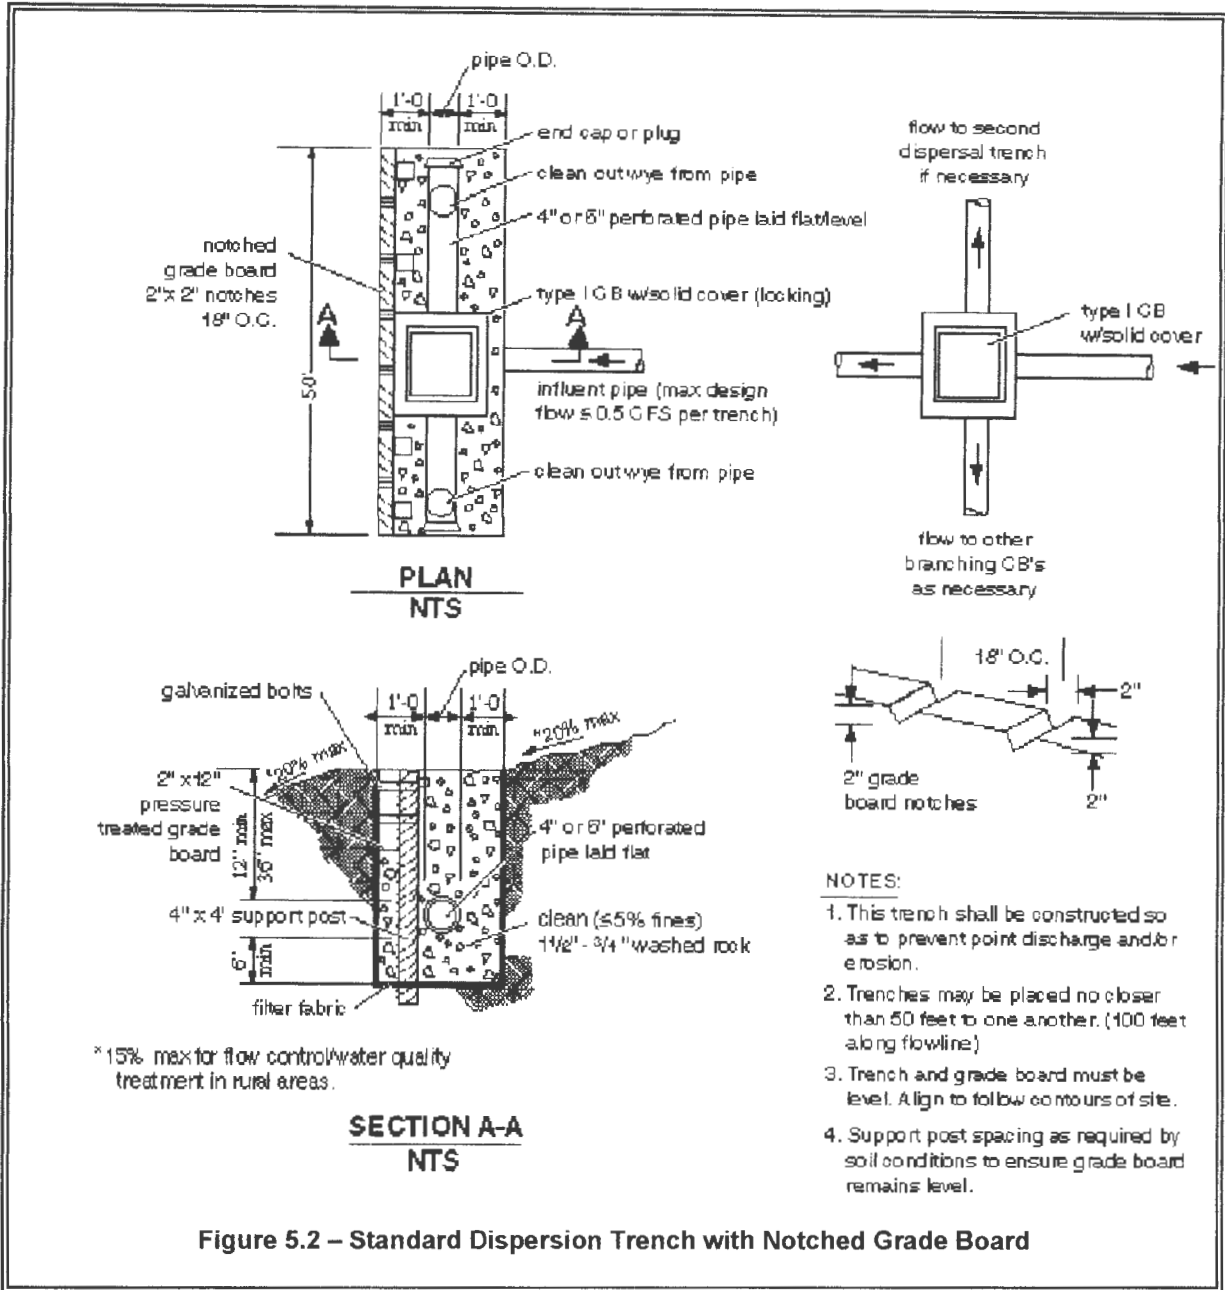

Figure 5.2 – Standard Dispersion Trench with Notched Grade Board
- Reference 2005 SMMWW, Figure 5.2 for construction details